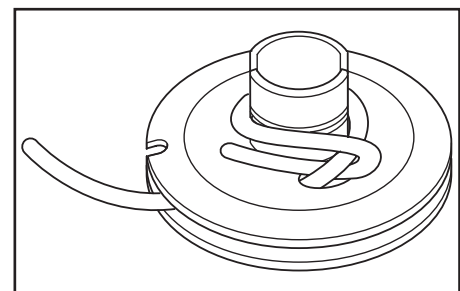

Figure 4
- Pull the cord out approximately 8" and lift the cord up into the notch in the pulley (Figure 4). Relax the recoil spring by placing thumb on pulley and gently allow the pulley to unwind entirely. Undo the screw in the center of the pulley and remove the pulley.